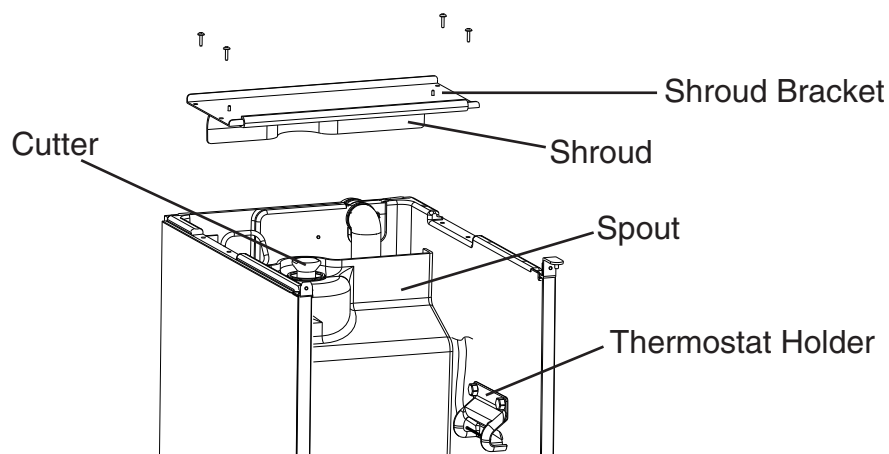

Fig. 6
- 5) Remove the 4 screws securing the shroud bracket, then lift off the shroud bracket and shroud. See Fig. 6.
- 6) Remove the 4 screws securing the shroud bracket, then lift off the shroud bracket and shroud. See Fig. 6.